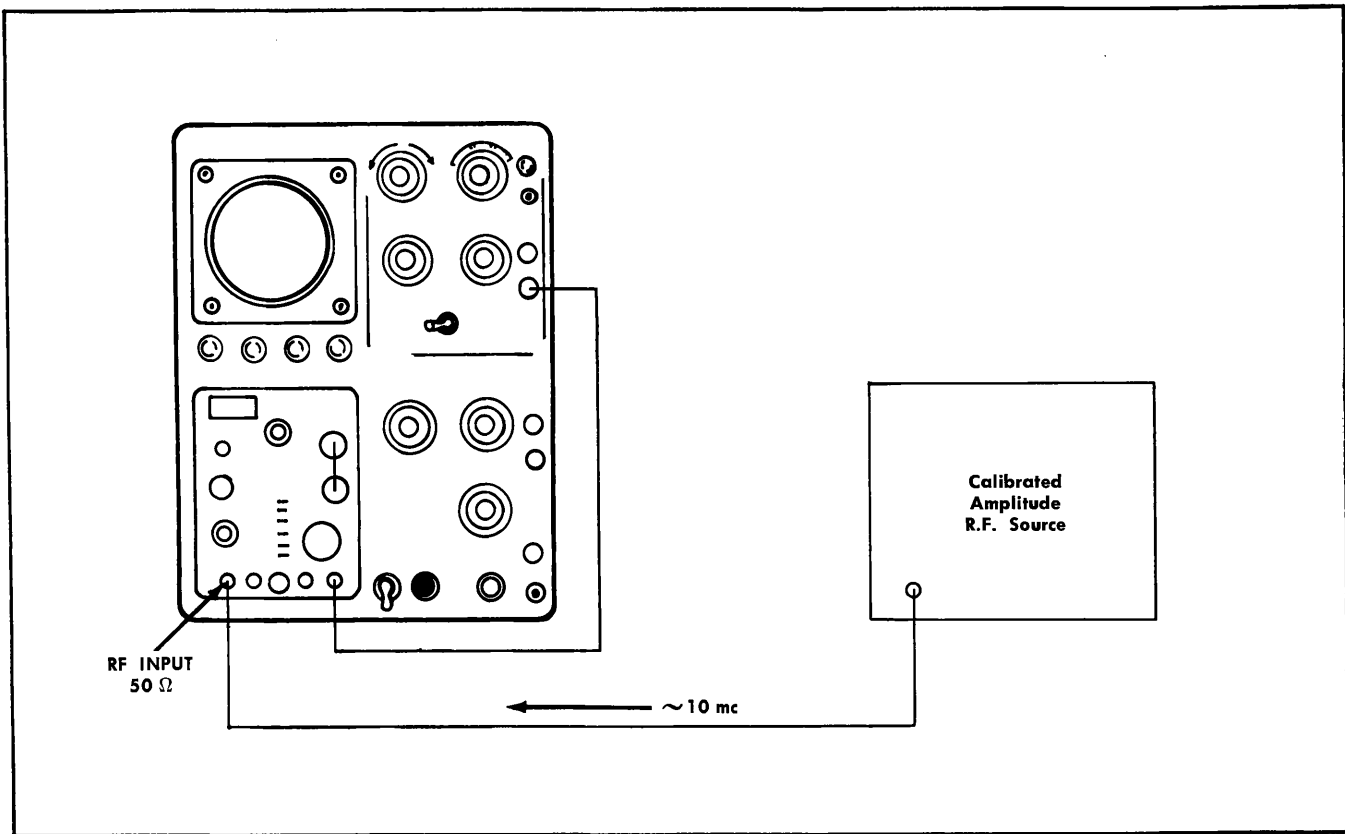

Fig. 4-2. Equipment setup for making sensitivity check.
2. Apply the output signal of the calibrated amplitude r-f generator to the RF INPUT 50  $\Omega$  connector of the Type 1L10 (see Fig. 4-2). Set the output of the generator for about  $-50 \text{ dbm}$ .